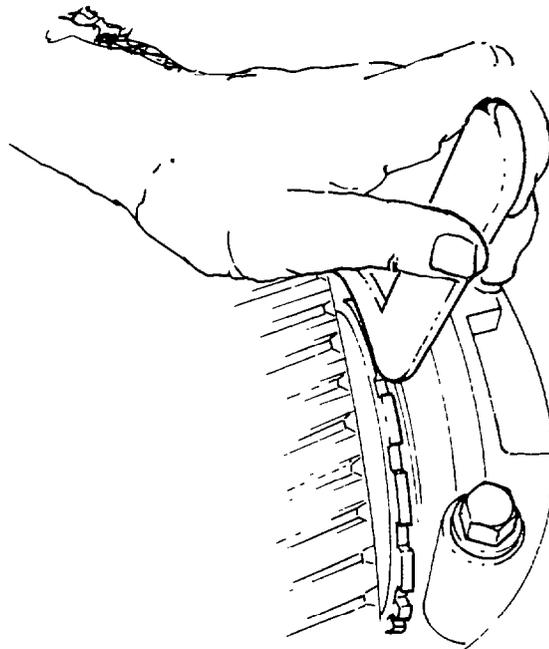

Fig. 292 — Loosening Adjusting Nut
- d. Loosen the bearing adjusting nut approximately one turn, using a differential bearing nut adjusting spanner J-26437 (see fig. 292).